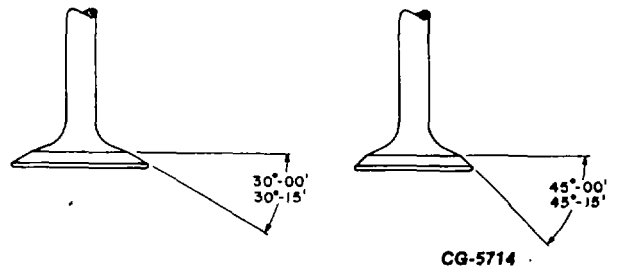

Figure 27. - Valve Face Angles (300/400 Series)
- c. Maintain valve face angles as shown in Fig. 27.